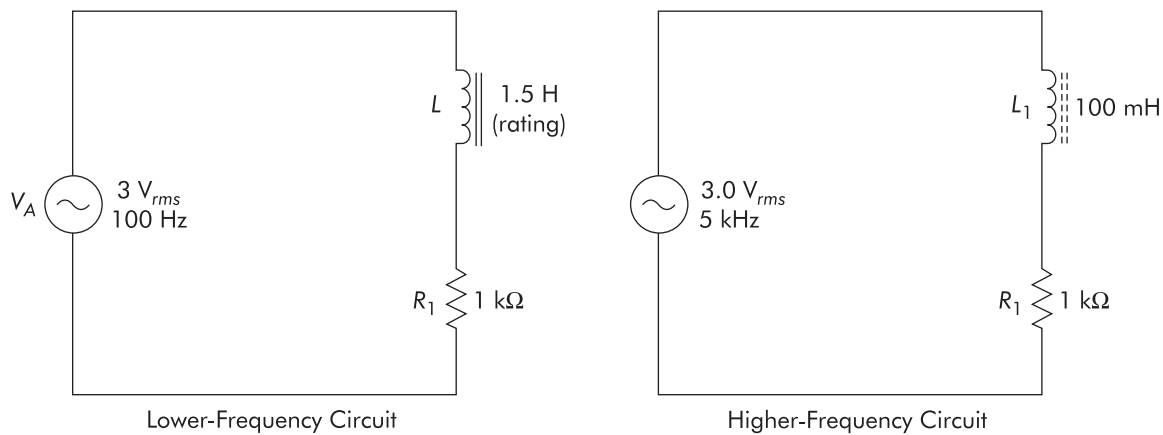

FIGURE 41-1
1. Connect the initial circuit as shown in Figure 41-1.